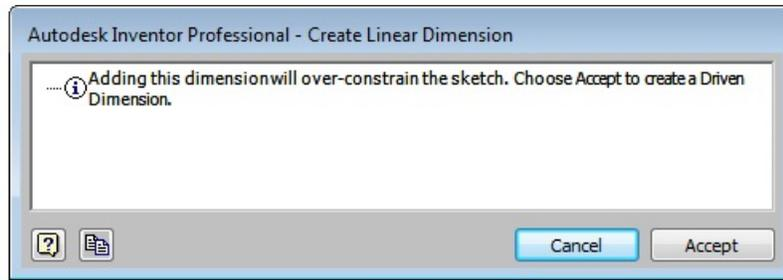
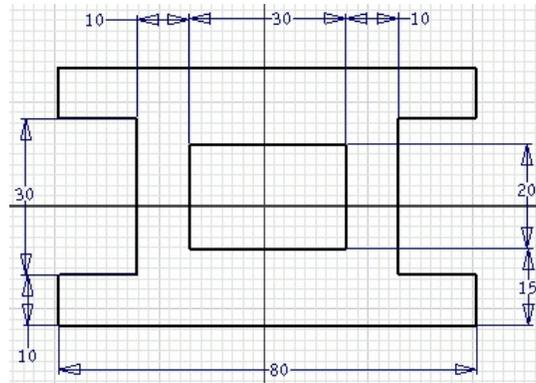

Figure 3-50 The *Autodesk Inventor Professional* message box
Figure 3-51 Sketch after adding dimensions
- Add the required constraints and dimensions to complete the sketch, refer to Figure 3-51.
With this step, you have applied all the required constraints and dimensions to the sketch. Now the sketch is ready to be converted into a feature. If you try to add more constraints or dimensions to this sketch, the Autodesk Inventor Professional - Create Linear Dimension error message box will appear, informing that adding this dimension will overconstrain the sketch, see Figure 3-50. If you still want this dimension to be displayed, choose the Accept button from this message box; the dimension will be added as a driven dimension. A driven dimension is placed inside parentheses and is not used during the manufacturing process. This dimension is used only for reference. Note that you cannot edit the value of a driven dimension. The sketch after applying all the dimensions and constraints should look similar to the one shown in Figure 3-51.